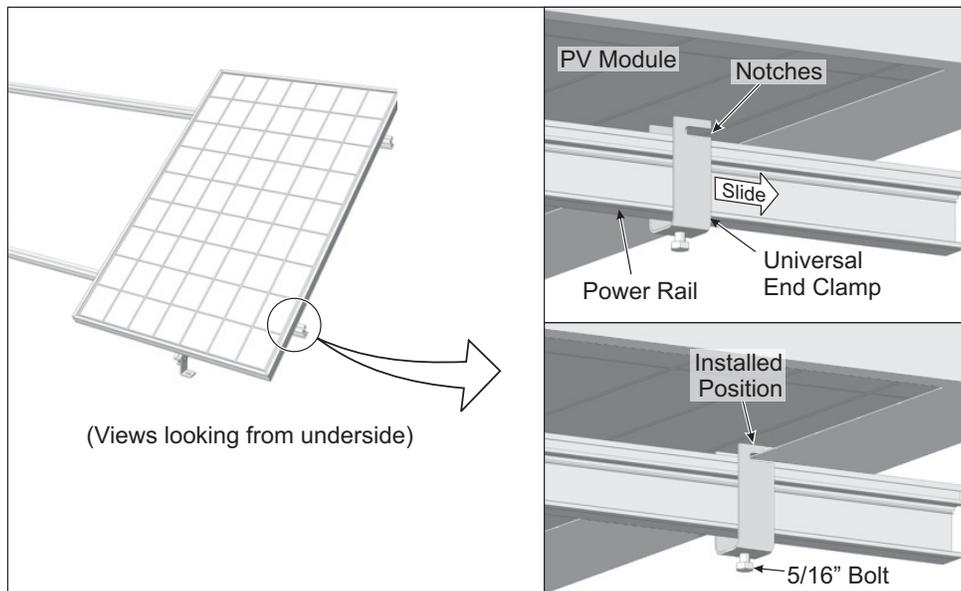

Figure 9-8: Installing PV Modules using Universal End Clamp
- B. Position Universal End Clamp underneath the module with notches facing the outside edge of the module, and rail centered between the ‘forks’ of the clamp. Slide clamp notches towards the module flange until the flange bottoms out in the notches. Tighten 5/16” bolt on bottom of universal end clamp. Torque to 6 ft.-lbs. Repeat for both end clamps. (See Figure 9-8)